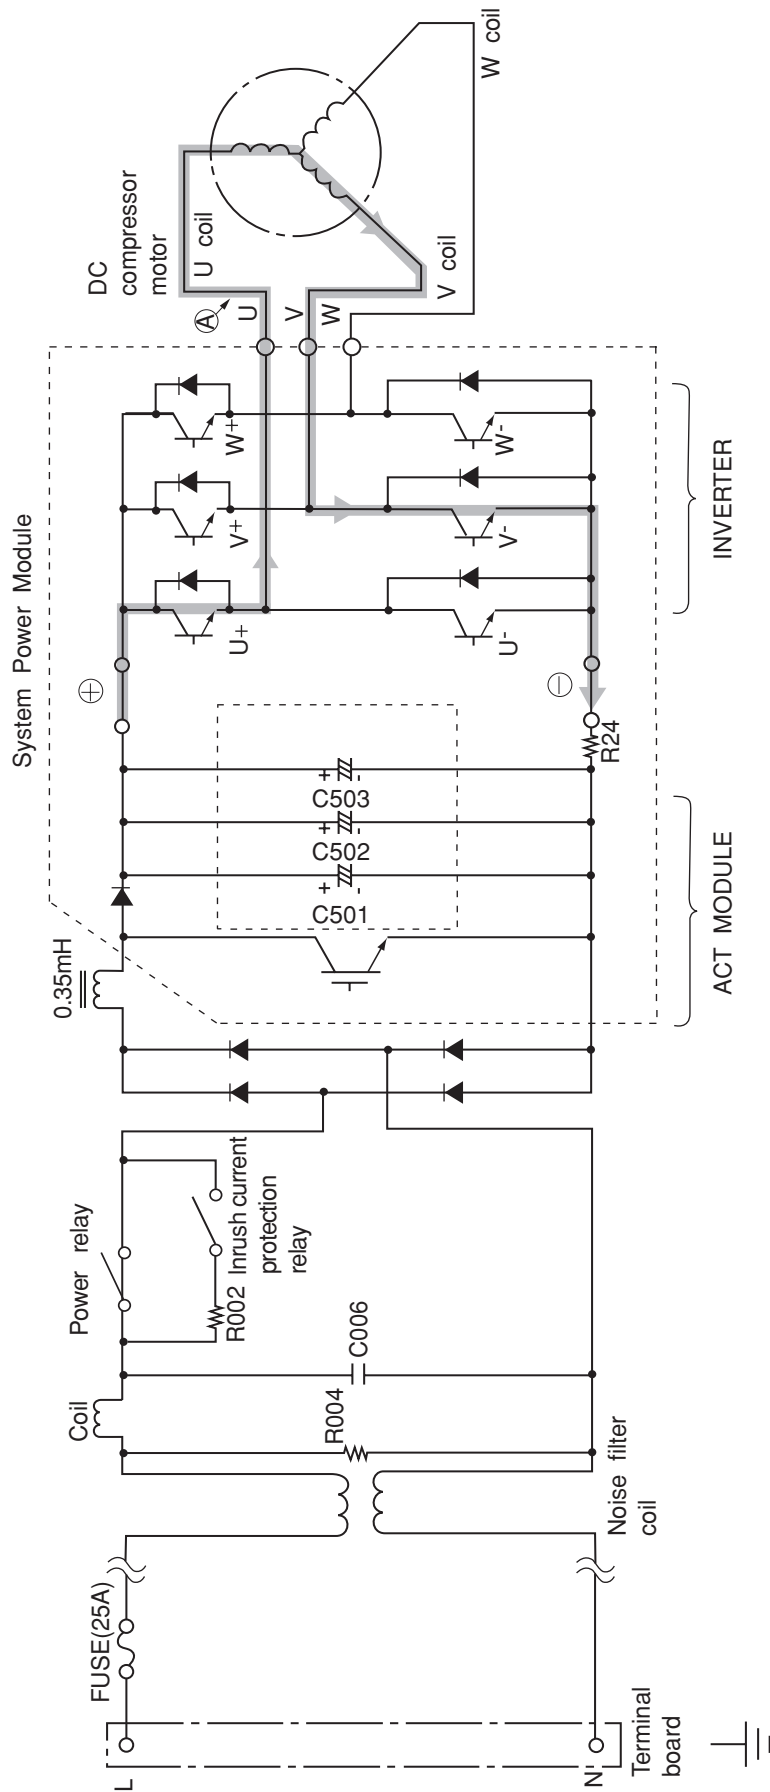
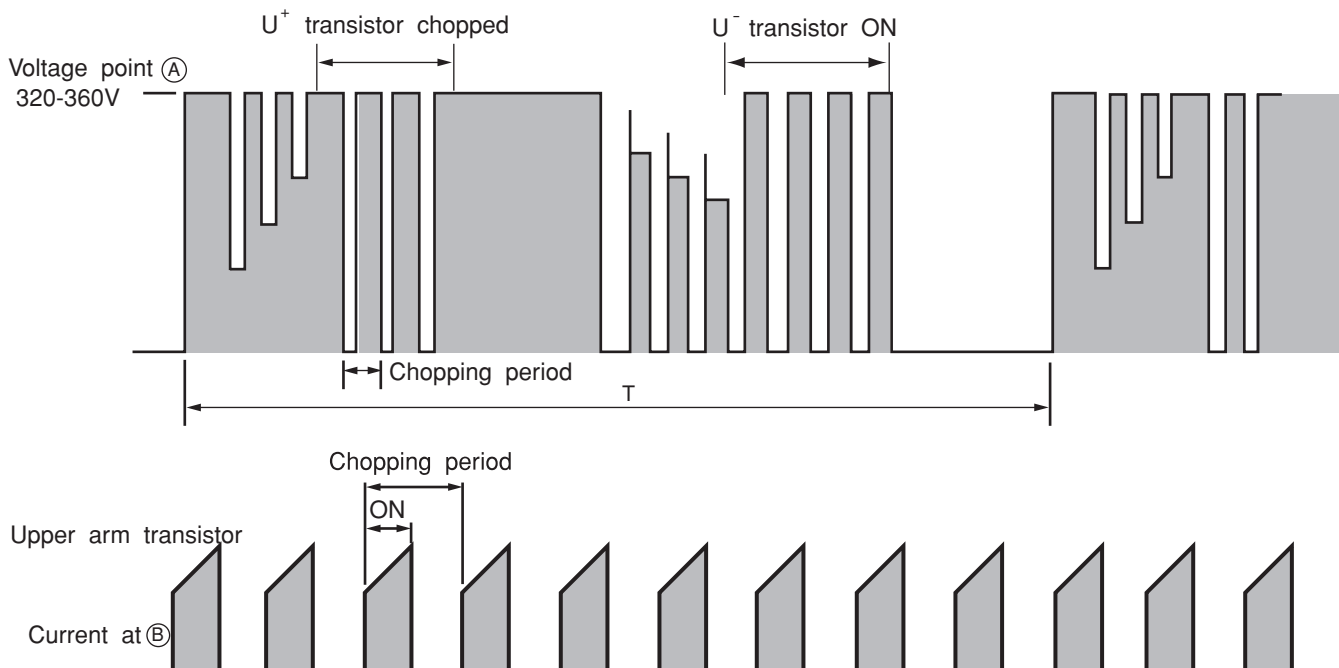

Fig. 3-1 System power module circuit (U+ is ON, V- is ON)
Fig. 3-3 Voltage waveform at each point
- Fig. 3-1 shows the system power module and its peripheral circuits. (Current ACT module and power module are combined into one unit.) The three transistors on the positive  $\oplus$  side are called the upper arm, and the three transistors on the negative  $\ominus$  side, the lower arm.
\* At point E: U+ is ON, V- is ON (circuit in Fig. 3-1)
- Fig. 3-3 shows voltage / current waveform at each point shown in Figs. 3-1 and 3-4. First half of upper arm is chopper, second half is ON, and first half of lower arm is chopper, second half is ON.
- When power is supplied U+ → U-, because of that U+ is chopped, current flows as shown below; ②
- (1) When U+ transistor is ON: U+ transistor → U coil → V coil → V- transistor → DC current detection resistor → Point ② (Fig. 3-1)
- Since current flows at point ⑥ only when U+ transistor and V- transistor is ON, the current waveform at point ⑥ becomes intermittent waveform as shown in Fig. 3-3. Since current at point ⑥ is approximately proportional to the input current of the air conditioner, input current is controlled by using DC current (Id) detection resistor.